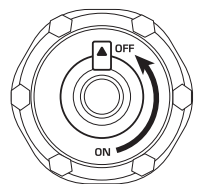

Fig. 4
7. After the generator stops, allow it to cool down and close the vent (for model KSB 21i S set to OFF, as shown in Fig. 4).